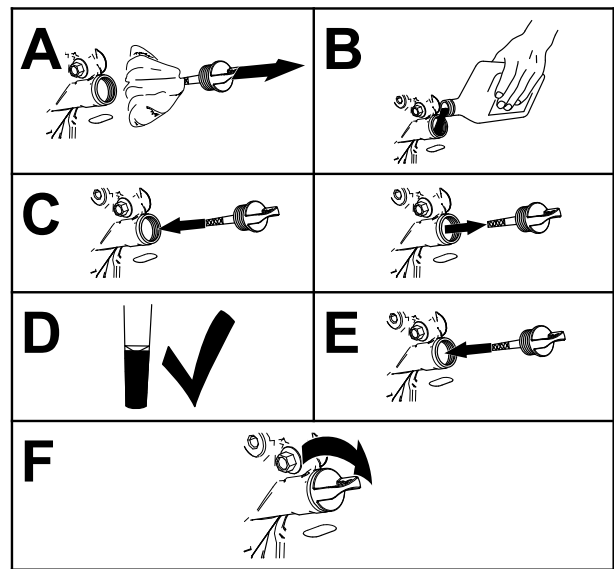

Figure 37
4. Slowly pour approximately 80% of the specified oil into the filler tube, and slowly add the additional oil to bring it to the **Full** mark (Figure 37).